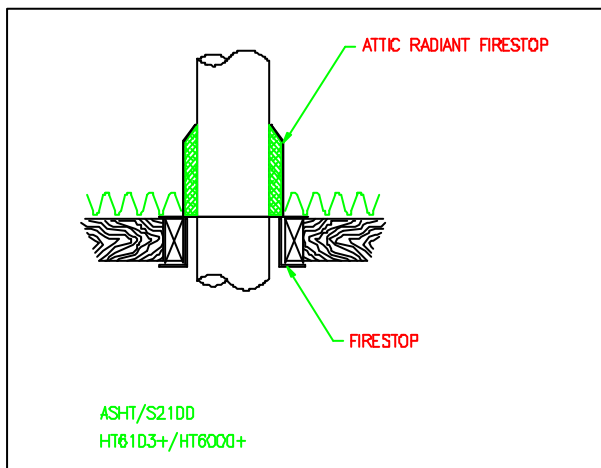
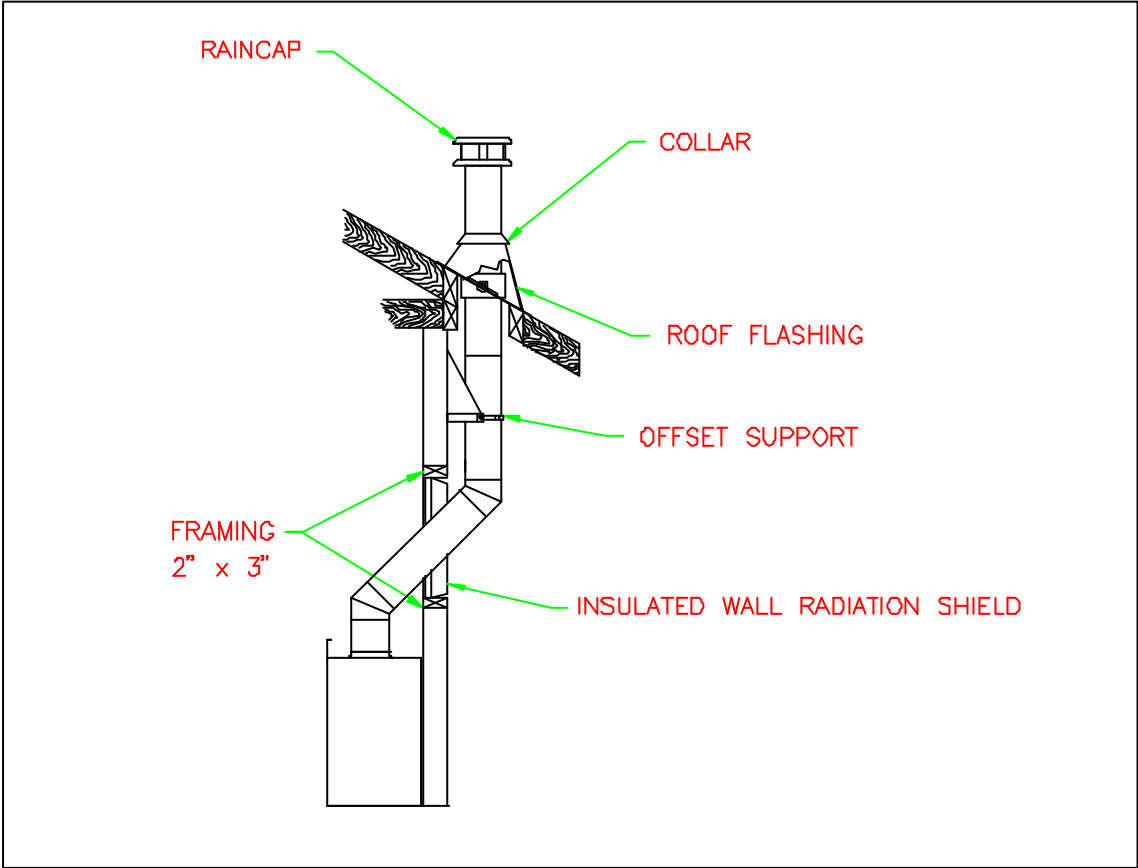

Figure 26
Figure 32
2. From below, install a firestop in each ceiling/floor separation through which the chimney will pass. At the attic level, install an attic radiation shield from above. (figures 26 & 27).
1. Install the first elbow; turn it in the required direction. Fasten it to the chimney with the three (3) ½" (12 mm) metal screws provided with the elbow.
2. Install the necessary chimney lengths to achieve the required offset. Lock the chimney lengths together : it is recommended to use three (3) ½" (12 mm) screws . If the offset length is made of two (2) chimney lengths or more, use an offset support halfway up the offset. If penetrating a wall, install a wall radiation shield (see figures 32 & 33).
3. Use another elbow to turn the chimney vertically. Secure the elbow, using three (3) ½" (12 mm) screws (provided with the elbow).
5. From below, install a firestop. (See figure 26).